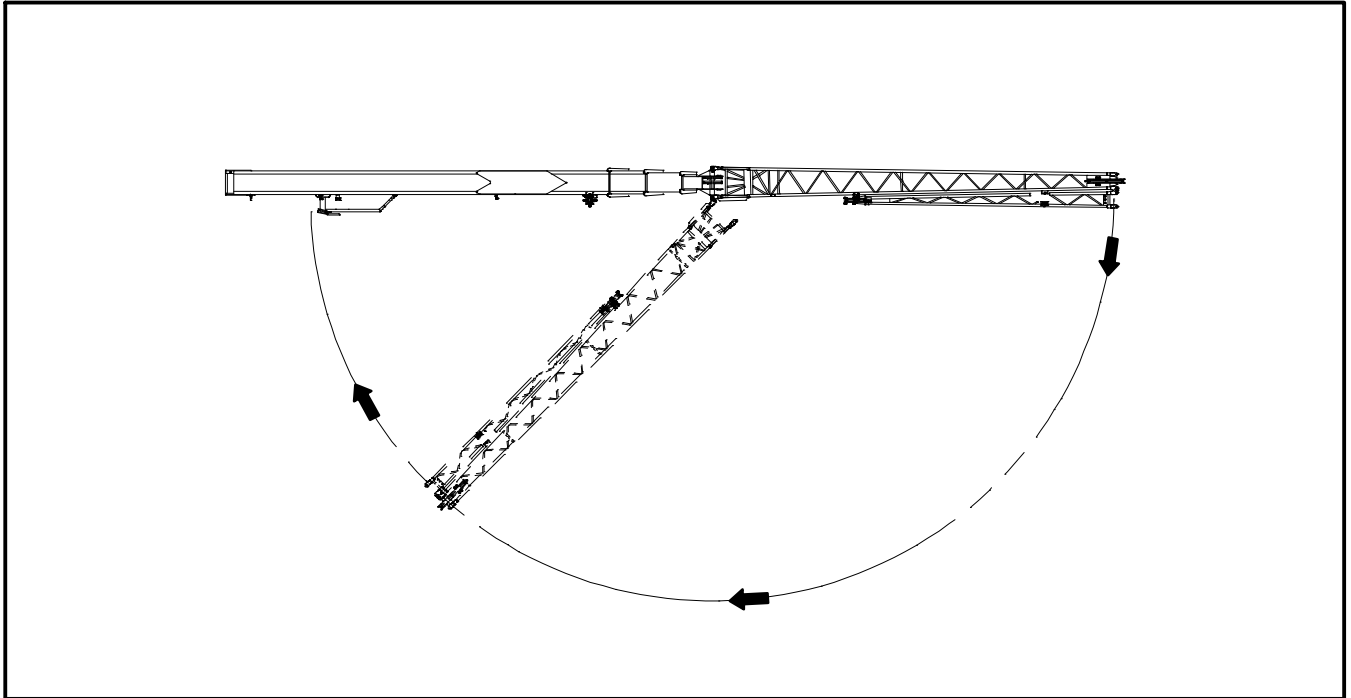

Figure 4–57
18. Attach a hand line to the tip of the fly base section. Slowly swing the fly base section around to the right side of the boom while slowly booming up to 50°. Refer to Figure 4–57.